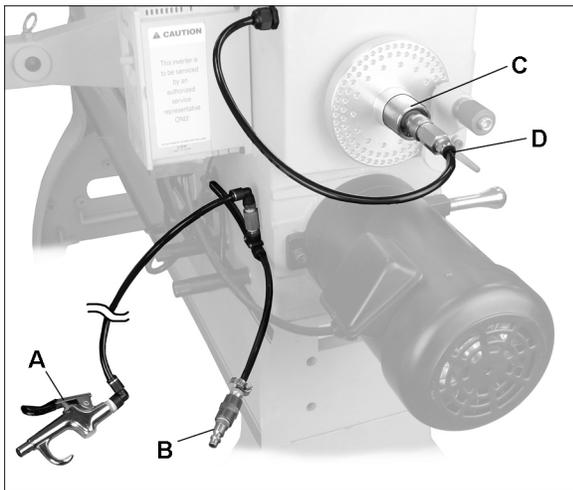

Figure 12
See Figures 12 and 13.
1. Connect blow gun hose (A, Figure 12) to the tee connector.
2. Connect your incoming air supply (90 psi) to the quick connect coupler (B).
3. Attach vacuum adaptor (C) to hose (D) and push adaptor into spindle.